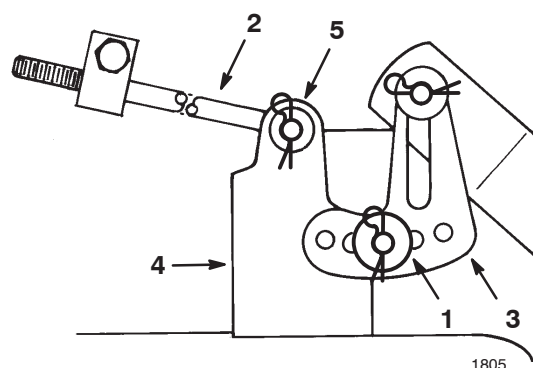

Figure 42
8. Slide the end of the long rod through the hole in the mower mount (Fig. 42).
9. Install the thin washer and hairpin cotter to secure the rod in place (Fig. 42).
10. Mount the slotted mower leveling bracket onto the pin on the mower mount (Fig. 42).
11. Install the thick washer and hairpin cotter to secure the mower (Fig. 42).